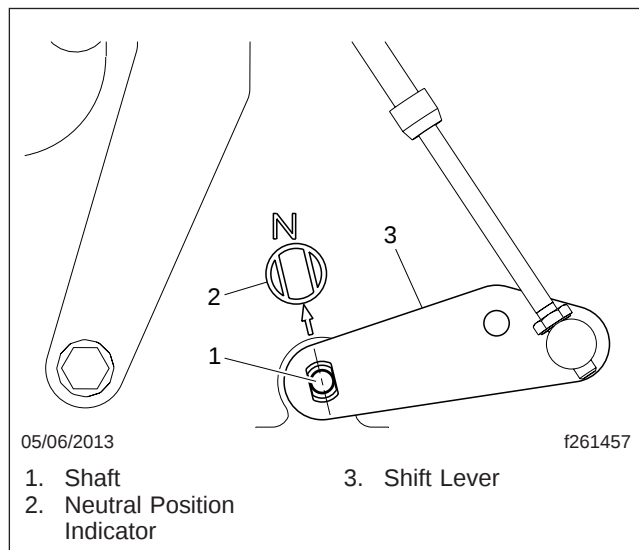

Fig. 7, Neutral Position Indicator
13. Make sure the shift control on the dash is set to "Neutral", and the shift lever on the transmission is in the "Neutral" position, as determined by the orientation of the shift lever shaft and the neutral position indicator. See **Fig. 7**.